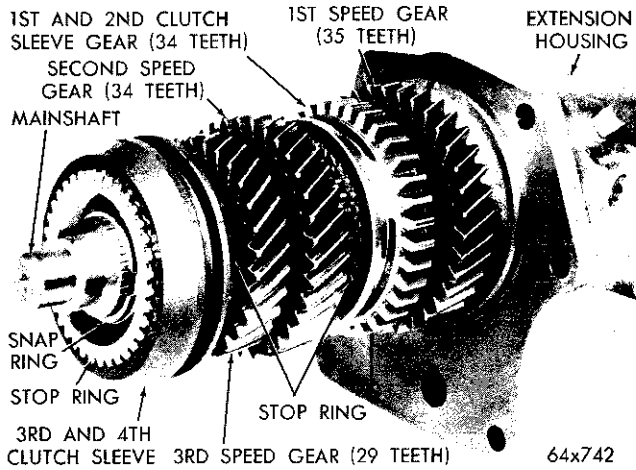

Fig. 33—Mainshaft Gear Identification
(3) Refer to Fig. 33 for location of the various gears, synchronizer sleeves and clutches before disassembling the mainshaft.